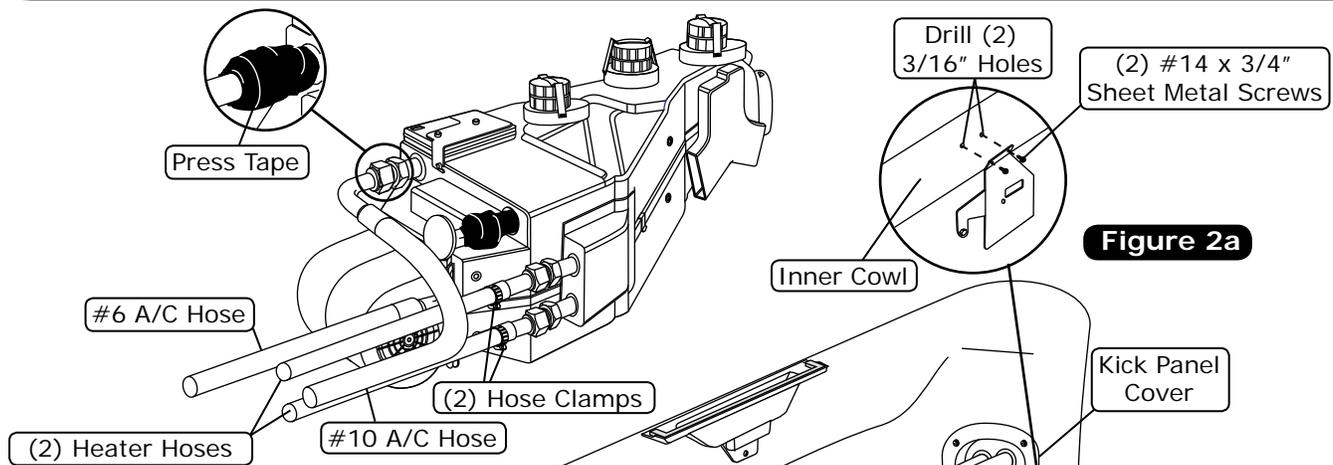

Figure 1
2. Install the 90° fitting from the #6 drier/evaporator A/C hose onto the expansion valve on the evaporator unit using a properly lubricated #6 O-ring (See Lubricating O-rings, Page 14 and Figure 1, below).
3. Install the heater hose and a hose clamp onto the upper heater hardline on the evaporator unit (See Figure 1, below).
4. Install the lower heater hose and a hose clamp onto the lower heater hardline on the evaporator unit (See Figure 1, below).
8. Install the 90° female fitting from the #10 compressor/evaporator A/C hose onto the evaporator unit using a properly lubricated #10 O-ring (See Lubricating O-rings, Page 14 and Figure 1, below). **NOTE: After installing the #10 compressor/evaporator A/C hose, wrap all exposed metal with the supplied press tape (See Figure 1, below).**
2. In line with the drain, lightly scribe a mark on the firewall. Measure down 1" and drill a 5/8" hole through the firewall (See Figure 1, below).
3. Install the drain hose onto the bottom of the evaporator sub case and route it through the firewall. Install the 1/2" 90° drain elbow onto the drain hose as shown in Figure 1, below.